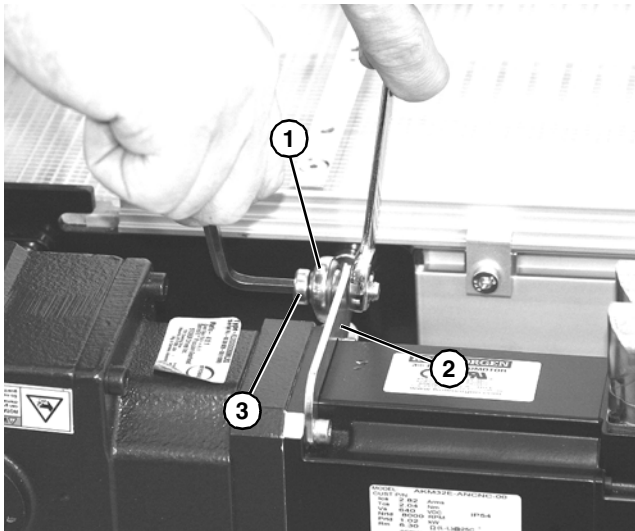

Figure 17
- Secure top of anti-rotation adjustable rod (**Figure 17, item 1**) onto bracket (**Figure 17, item 2**) on servo motor assembly with socket head bolt (**Figure 17, item 3**).